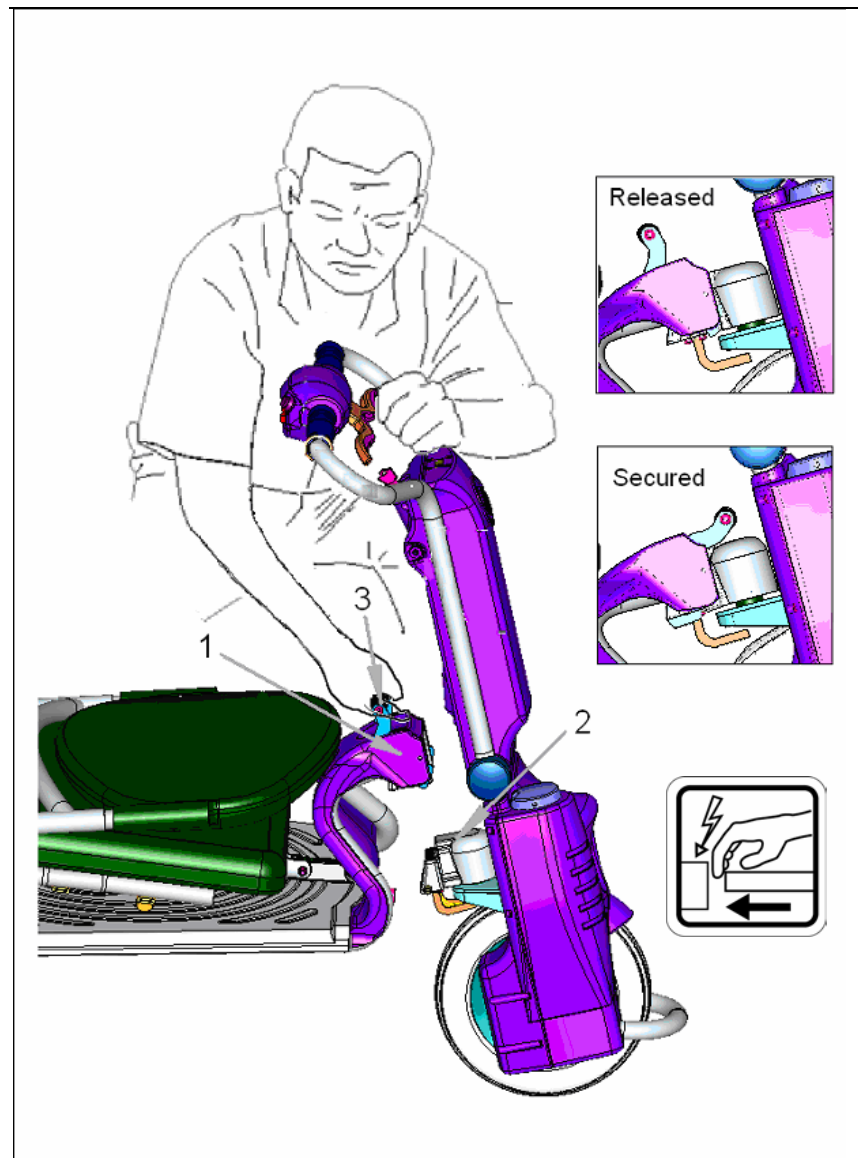

Figure 3
Refer to figure 3: The frame bushing (1) is inserted onto the tiller tapered block (2) . It is also the fixation of the tiller to the frame by means of a locking lever (3).
We advise you to approach the frame from the left hand side (when you are right-handed). Take the tiller in your left hand, holding it at the frame tube just above the control panel. Make sure you hold it up straight and tilt it backwards slightly as indicated in **figure 3**.
Lift the frame bushing (1) by mean of the lever (3) using your right hand as shown in **figure 3** . Now place the frame bushing over the tapered block (2) of the tiller. Than after they attached together push the lever (3) forward and downward until it lock them together . Make sure that you hear a clicks that will ensure you completely secured connection. Please refer to **figure 3** to the differences between the two positions : Released and Secured . Also make sure that the connection is done properly by means of tilting the tiller forward and backward . The electrical connections between the tiller and the frame is done at the same stage .